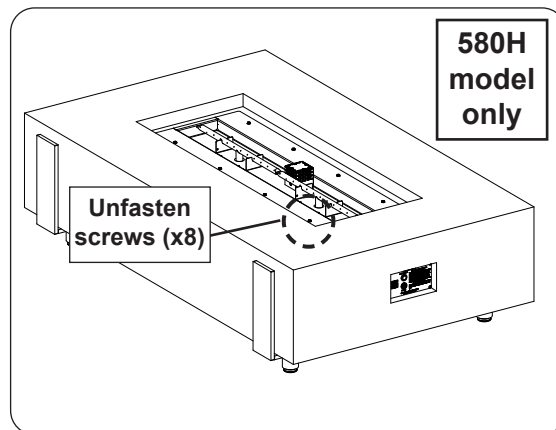

Fig. 25-1 Remove burner assembly
1. Use a $\frac{5}{16}$ " nut driver to partially unfasten the eight screws found on the burner assembly (see Fig. 25-1).